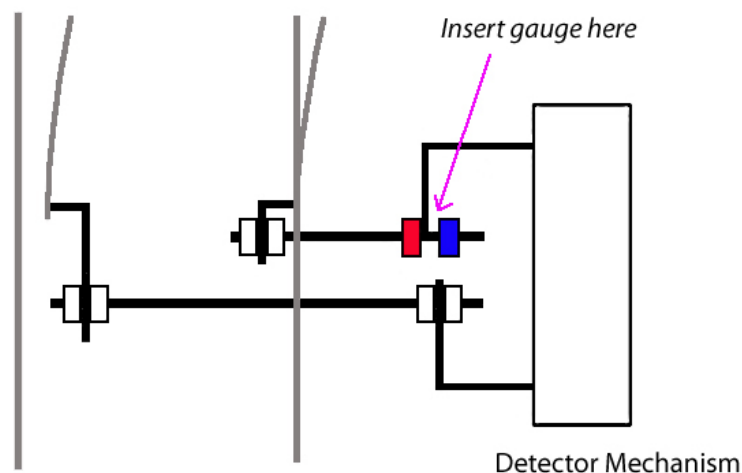

Figure 1 – Detector Mechanism (1)
- | 1.2 Check the short detector rod is connected to the closed switch (Figure 1).